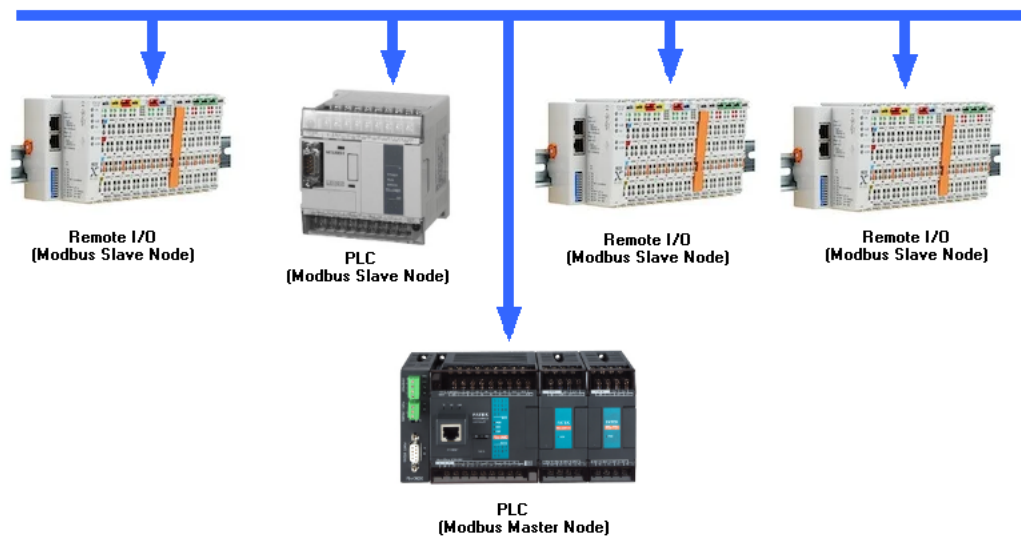
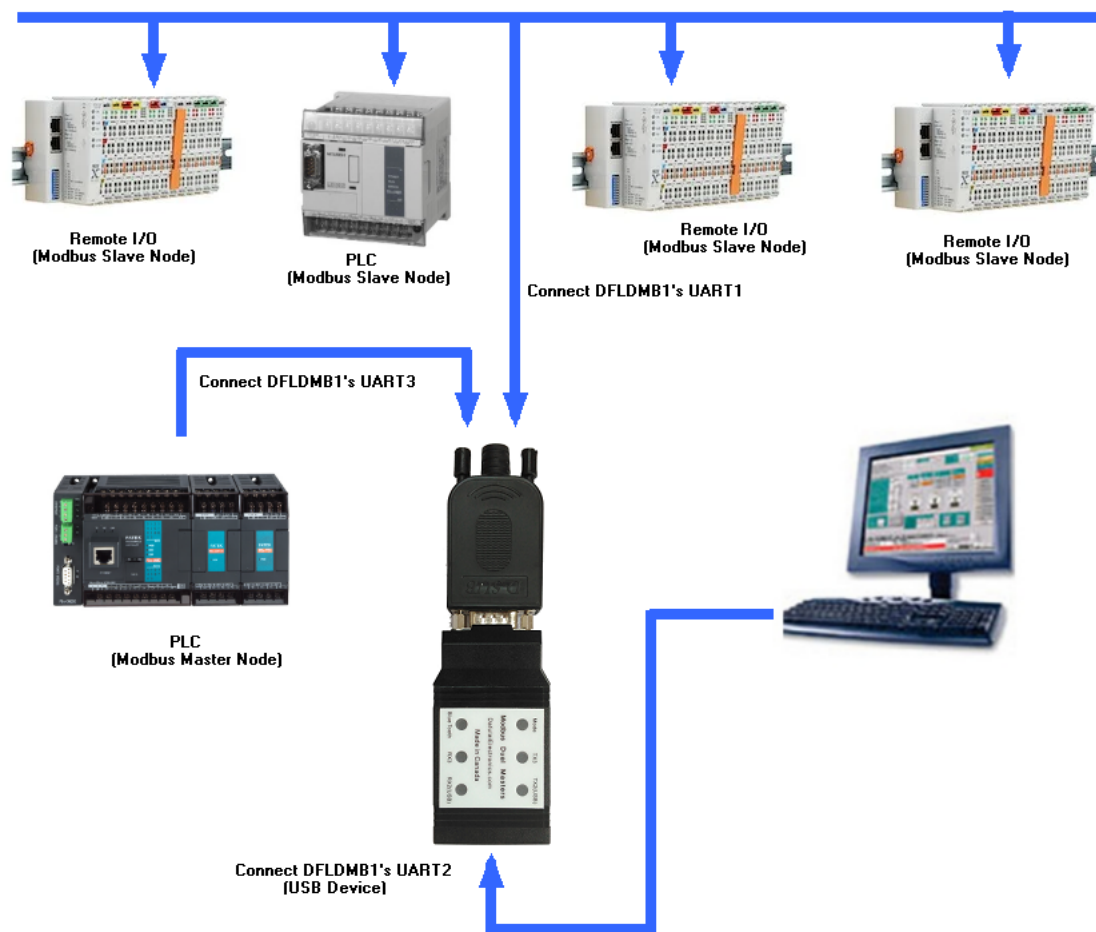

Fig. 1 Original Modbus network Diagram
Fig. 2 Diagram with "Modbus Dual Masters" Adaptor.
Firstly, the original diagram without our "Modbus Dual Master" is shown below (Fig.1):
From the diagram above, we cannot monitor Modbus network by another modbus master. However, we can do it when we add Dafulai Electronics "Modbus Dual Masters" device. Please see diagram Fig.2 below:
*Notes: If Modbus Master Time Out setting in Fig.1 has no margin (closed to border), you must make Modbus Master Time Out setting bigger in Fig.2 because time one master sends request may be the time the other master get response.*